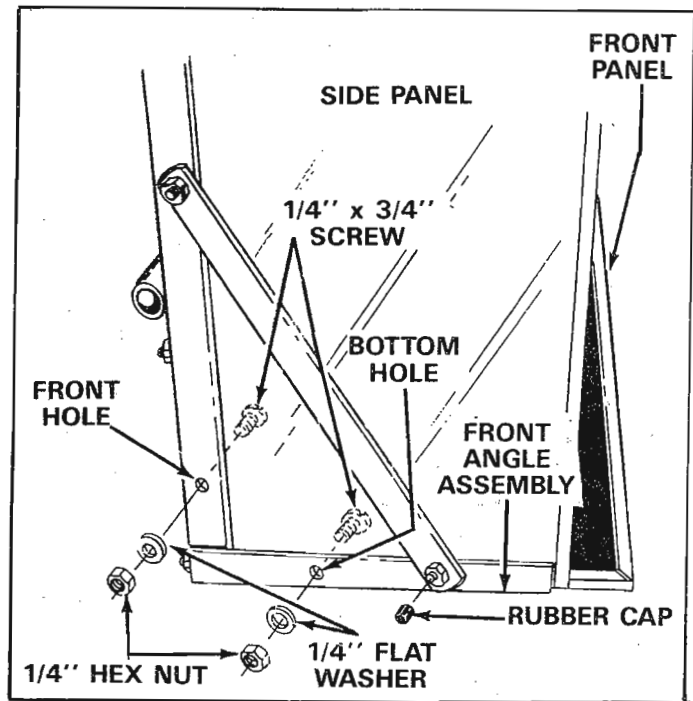

FIGURE 7
14. **Now tighten all nuts and screws securely.** Install rubber cap on top screws installed in step 10 and step 11 as shown in figure 7.